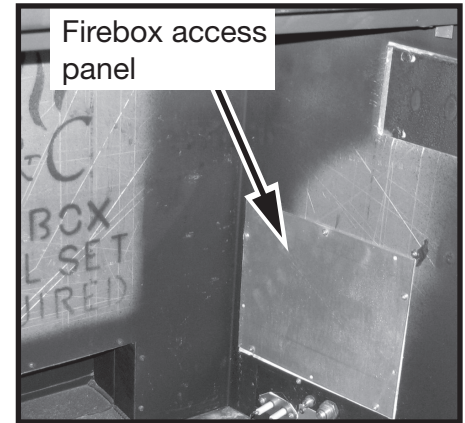

Figure 22: Access to firebox.
3. Remove access panel from right hand side of the firebox (Figure 22).